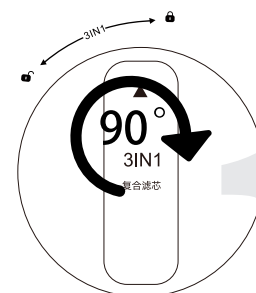

Figure 5
3. Gently press the filter element and rotate it 90° clockwise, ensure the triangle icon on top of filter element point at  icon **figure 5**.